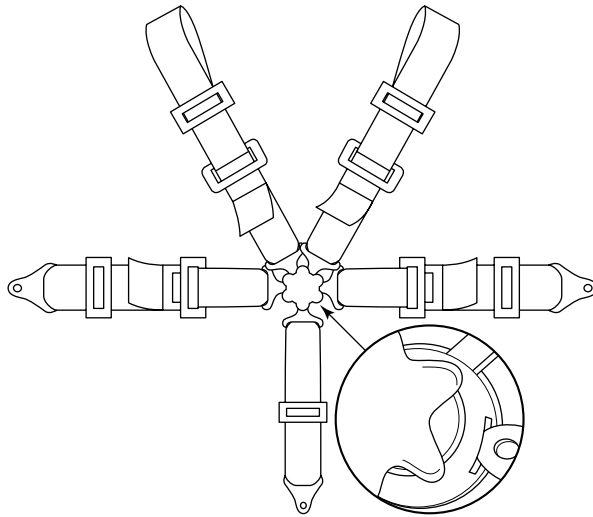

Figure 4-18:
- ✓ Cam lock latches (shown in Figure 4-18) are easier to operate quickly, but they're more expensive and tend to jam with dirt accumulation.